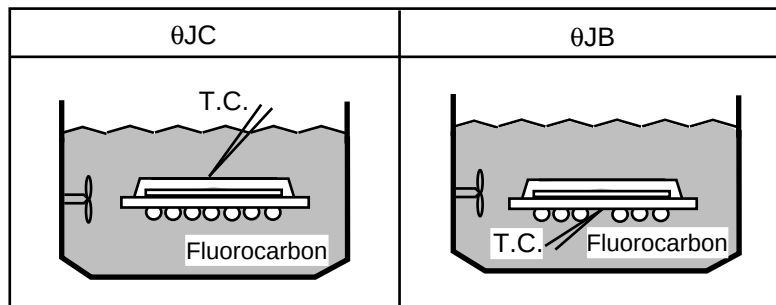

Fig.1 Definition of measurement
5. θ_{JC} is measured at the center of mold surface in fluorocarbon.(See Fig1.)
6. θ_{JB} is measured on the center ball pad after removing the ball in fluorocarbon. (See Fig1.)